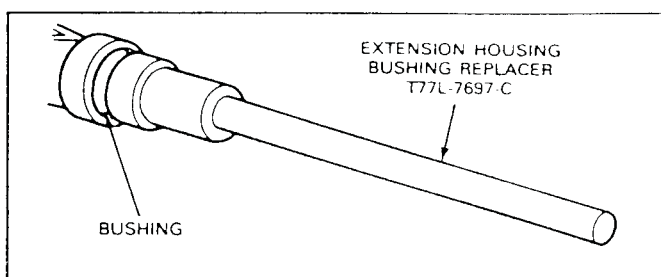

FIG. 13 Installing Extension Housing Bushing
1. When installing a new bushing use the special Tool T77L-7697-C shown in Fig. 13.